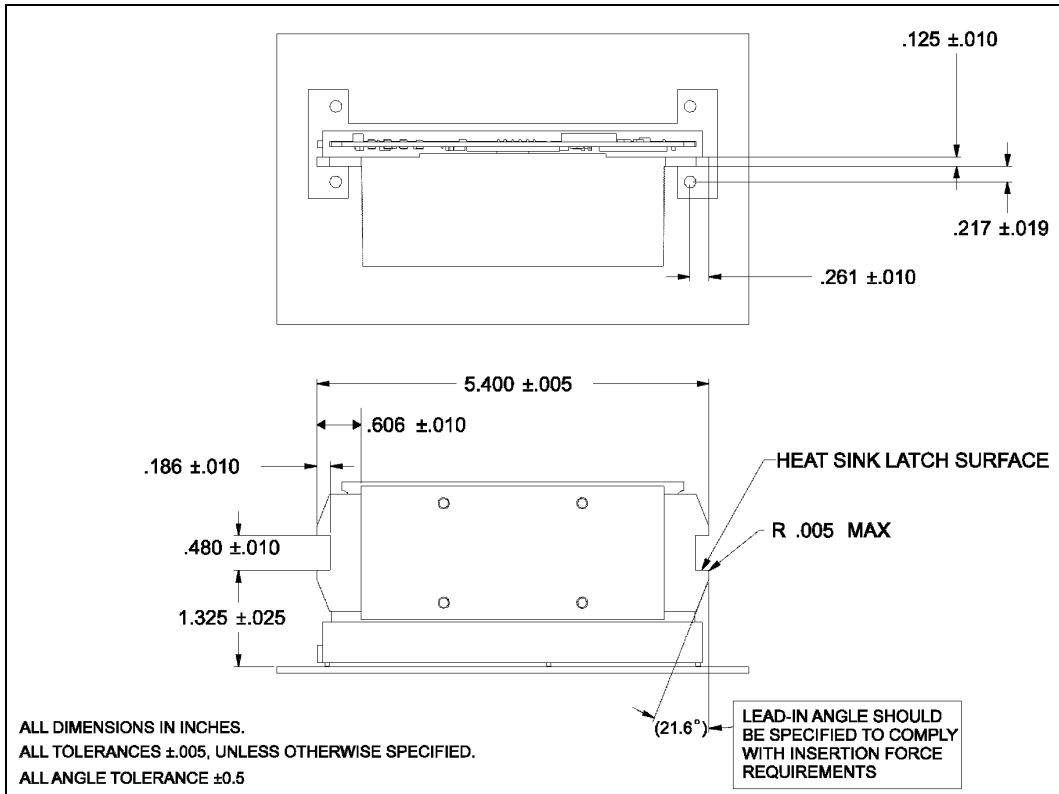
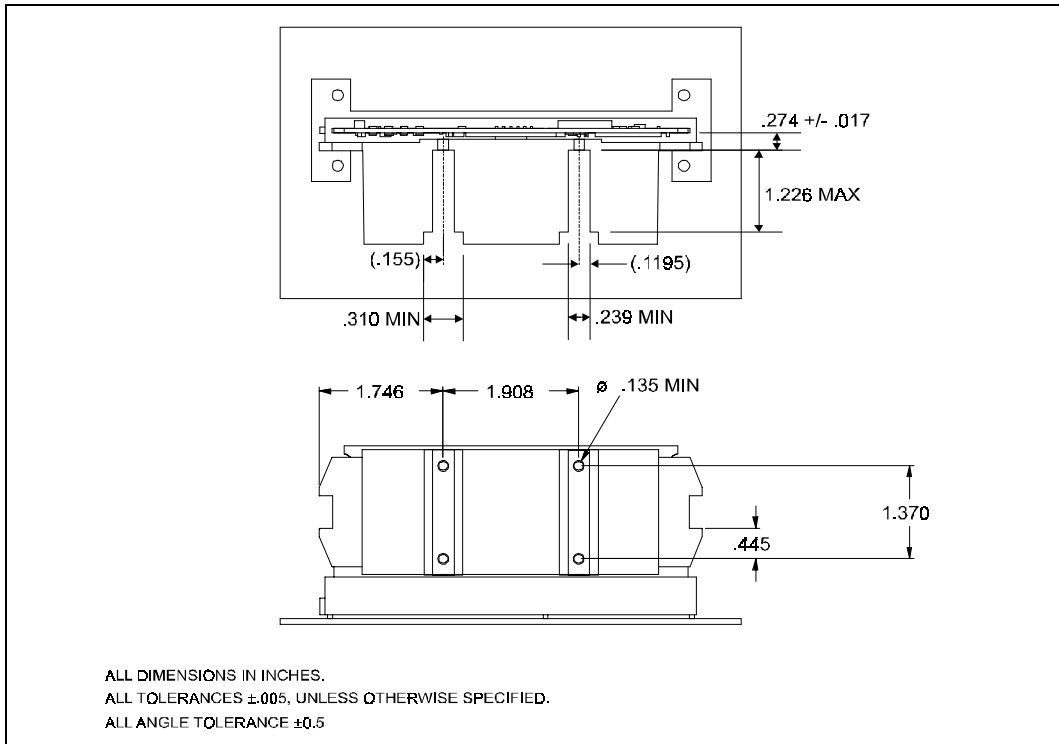

Figure 16. Retention Mechanism Features to interface Heat Sink
Figure 18. Heat Sink Requirements for Use with Reference Design Retention Clip
Figure 16 through Figure 18 provide an overview of the recommended design guidelines for heat sink designs compatible with the reference RMs. It is important to follow these guidelines to ensure the heat sink works properly with the RM and supports the processor. For the complete document see the Intel website for the Single Edge Contact Cartridge 2 (S.E.C.C.2) Heat Sink Attachment and Heat Sink Functional Requirements.
Figure 16 shows dimensioned critical features of the generic heat sink that will interface with the RM. The .480" wide rectangular cutout is designed to be the latching feature for the reference RMs and must be
5. Adherence to additional keep-outs described in Figure 18 should be observed if the reference heat sink retention clip is used.
Figure 18 shows additional heat sink keep-out zones that are necessary in order for the design to be compatible with the reference heat sink attachment clip. Note that the dimension in the upper right of the figure is from the heat sink surface shown to the surface of the substrate and can be used for both PLGA and OLGA processor core packages.